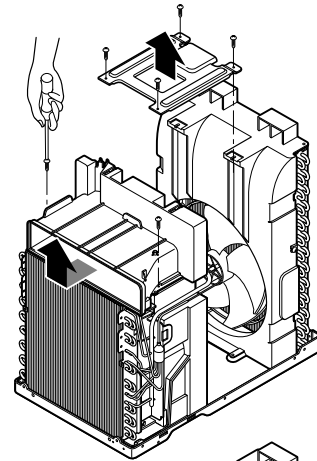

Figure 4
6. Remove the 2 screws which fasten the upper air guide. (See Figure 4)